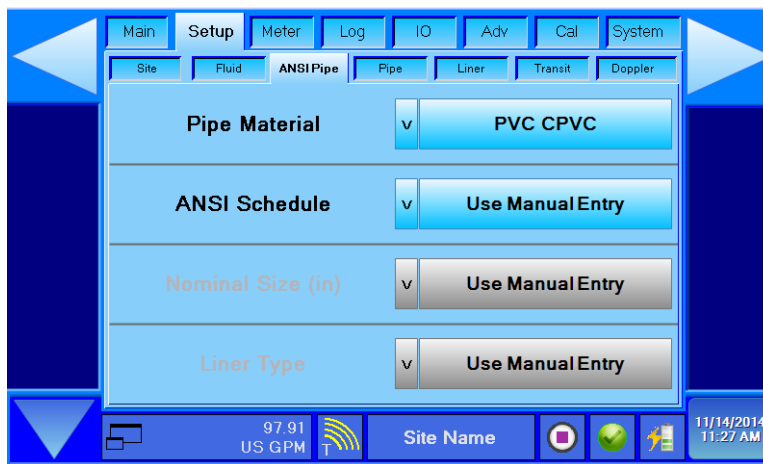

Figure 61: Setup > Pipe US — schedule manual entry selected
1. Make sure Setup > ANSI Pipe > ANSI Schedule is set to “Use Manual Entry” as in Figure 61.